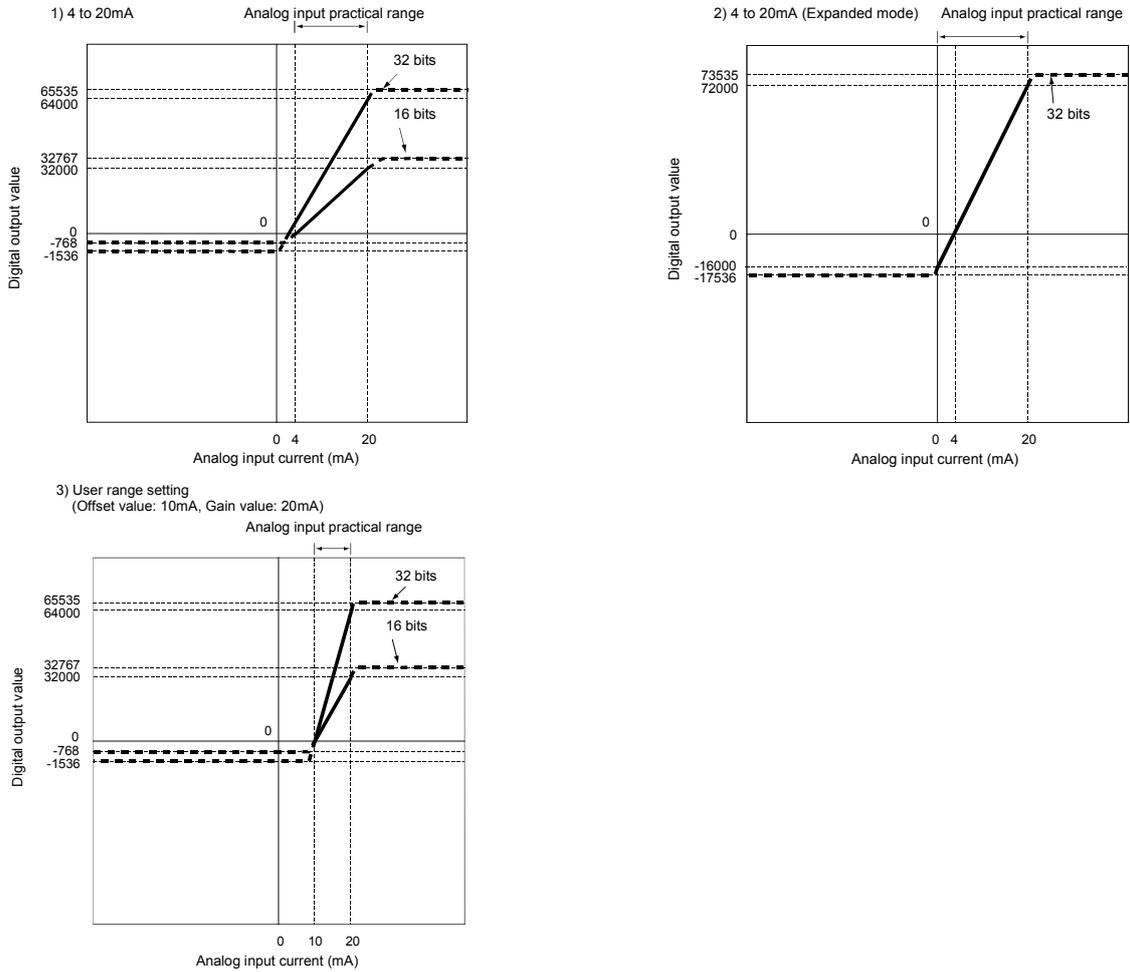

Fig. 3.3 Input characteristic of Q62AD-DGH
Fig. 3.3 shows a graph of the Q62AD-DGH input characteristic.
(1)	Set within the analog input range and digital output range for each input range. If these ranges are exceeded, the maximum resolution and accuracy may not fall within the performance specifications. (Avoid use in the dotted area of Fig. 3.3.)
(2)	Set the offset/gain values for the user setting range within a range in which the following conditions are satisfied.